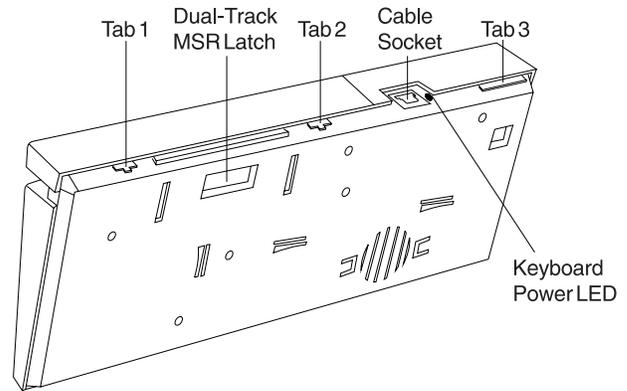

Figure 4-10. Removing the Keyboard Cover
- 2 Unlatch keyboard cover tabs 1, 2, and 3, in that order. See Figure 4-10 on page 4-19.